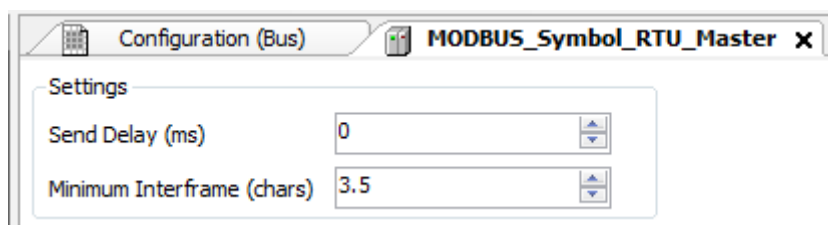

Figure 47: MODBUS RTU Master Configuration Screen
- Configure the general parameters of the MODBUS Master protocol, like: transmission delay times and minimum inter-frame as in Figure 47.